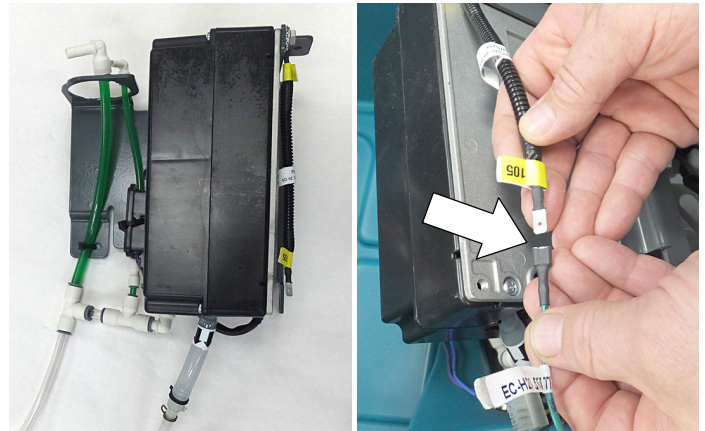

Fig. 3
3. Connect the green static ground wire from the ec-H2O wire harness to the module as shown (Figure 3).